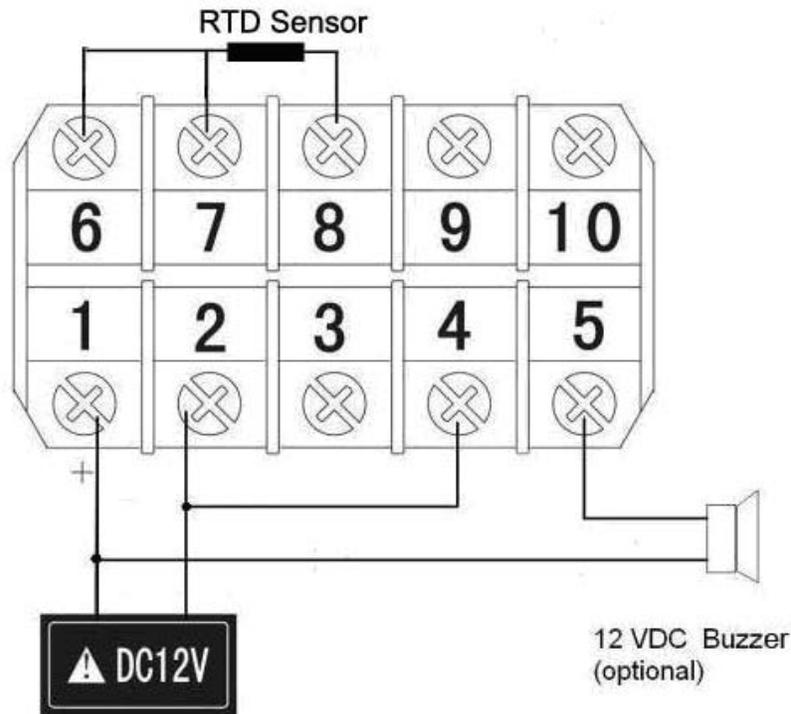

Figure 1. Wiring diagram for PT100A-NPT
- 2) To operate it, connect 12 VDC to terminal 1 (+) and 2 (-). Connect the RTD sensor which has three wires/connectors. Two connectors have same color and one has different color (for example, two red connectors and one blue connector). Connect the two same color connectors to terminal 6 and 7, and connect the different one to 8 as shown in Figure. 1